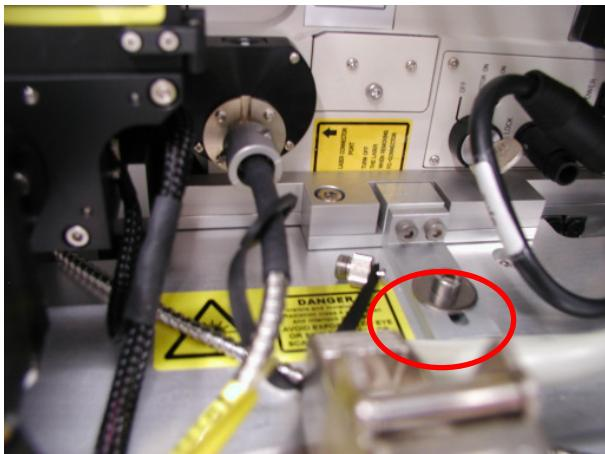

Figure 3: screw that fixes the slide of the Nipkow module to the ground plate
- new design (from Opera 37, 3616, RWTH Aachen Opera on): the Nipkow module is now mounted on a slide → loose the screw that fixes the slide to the ground plate; there are now no more screws that connect the base of the iMIC and the Nipkow module and the fasteners of the cameras (see *Figure 3* and *4*)